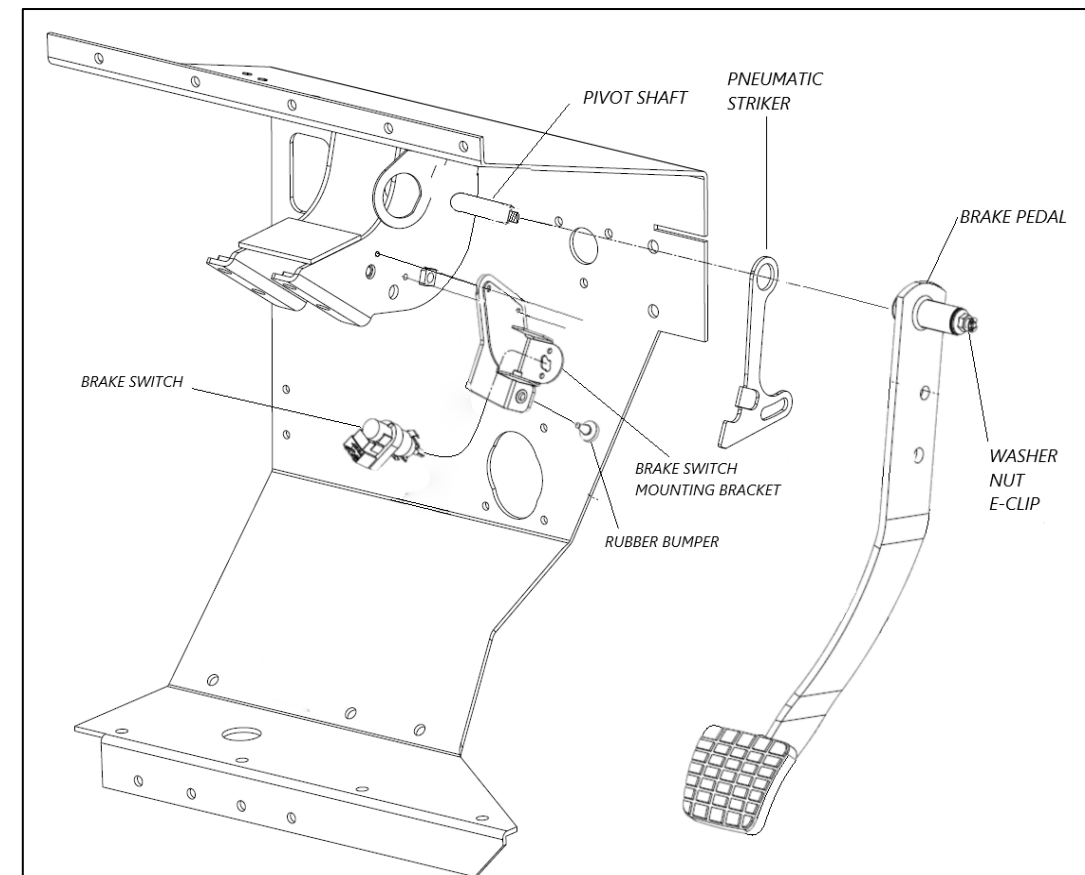

Figure 3
5. Remove and retain the E-Clip, nut and washer from brake pedal pivot shaft (Figure 3)
8. Rotate brake pedal fore and aft, as necessary, while sliding to the right until removed from pivot shaft. (Figure 3)
9. Remove striker bracket from brake pedal assembly. (Figure 3) Retain the 1/2" striker nut, bolt and washers, as they will be reused.